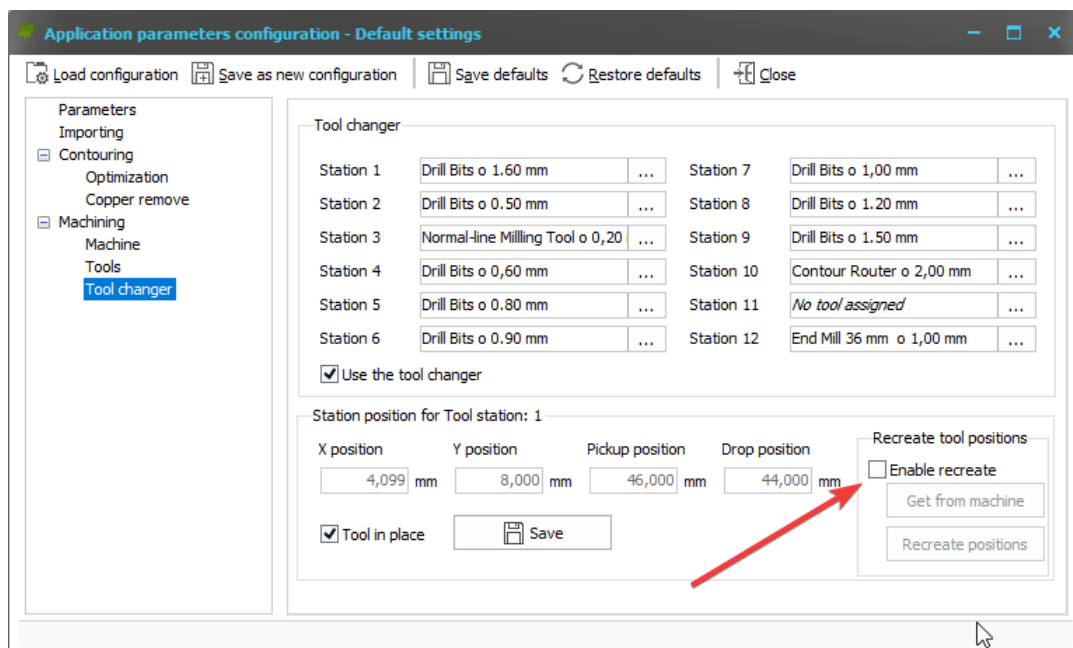

Figure 26 – enable recreate position
*In TrackMaker version 2.0.3.29 and higher, only 1st and 12th position can be set after enabling function **ENABLE RECREATE** (figure 26). All other positions will be calculated automatically with function **RECREATE POSSITIONS**. It is not possible to change automatically calculated positions. Since the tool changer is made from one piece of metal, the error on the distance between stations is very small. For this reason, only two station positions can be edited, the first and the last. Positions from 2 through 11 are recalculated based on the position of the first and last station.*